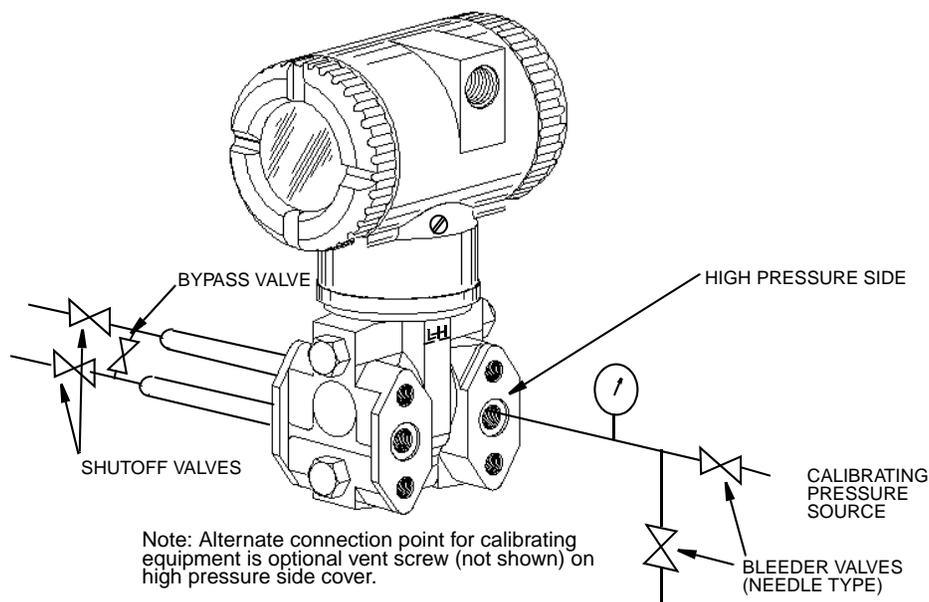

Figure 37. Field Calibration Setup
To set up the equipment, refer to Figure 37 and use the following procedure.
4. Complete the setup shown in Figure 37.